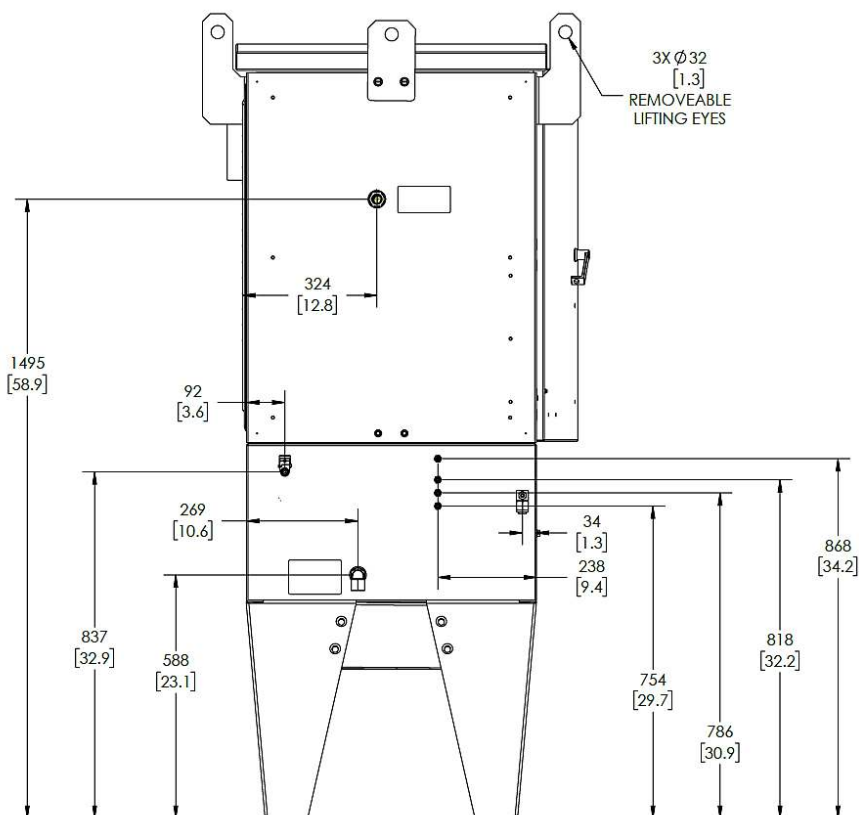

Figure 6 Class 1, Division 1 North American Cabinet Connection Dimensions mm[in]
8. Connect the odorant supply source to the odorant inlet bulkhead with the recommended 3/8" stainless steel tubing (Figure 6 & 8). The 3/8" inlet tubing size is standard across all NJEX ZEO models. A tank isolation valve (V15) should be incorporated between the storage tank and this connection.